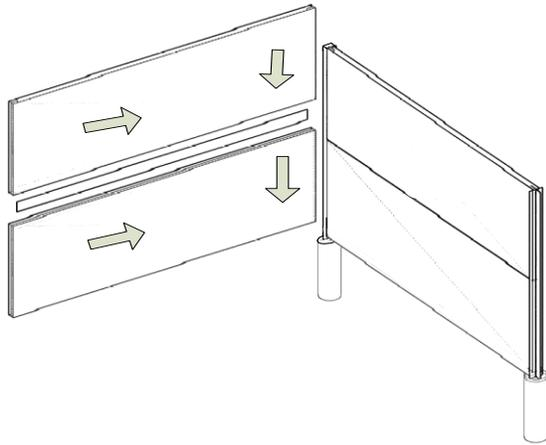
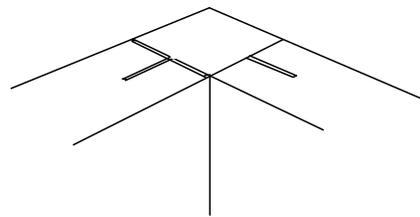

Figure 8
Figure 9
12. Intersecting Panels: When complete with one course of Panels (for example, side lot line) and ready to install an adjoining course (for example, rear lot line), simply begin with the first Post installed. As the Post has 2-4 flanges, slide next course of Panels onto the flange (see Figure 9) that aligns with the new course; Example: as most lots lines are at 90° to one another, chose the flange that is 90° to the first course (figure 8)